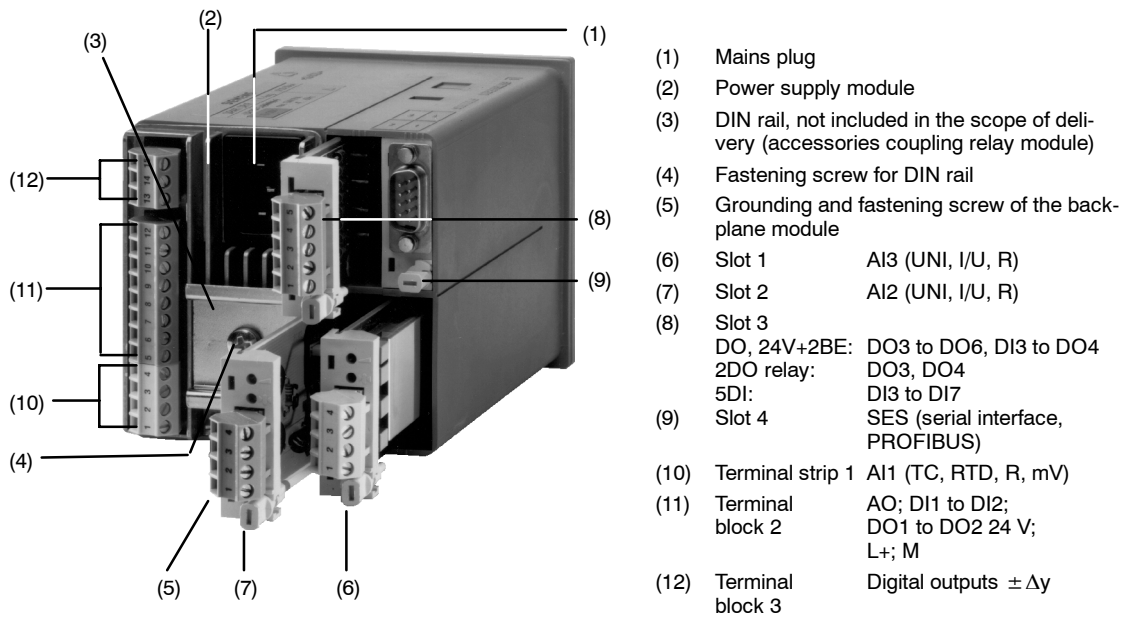
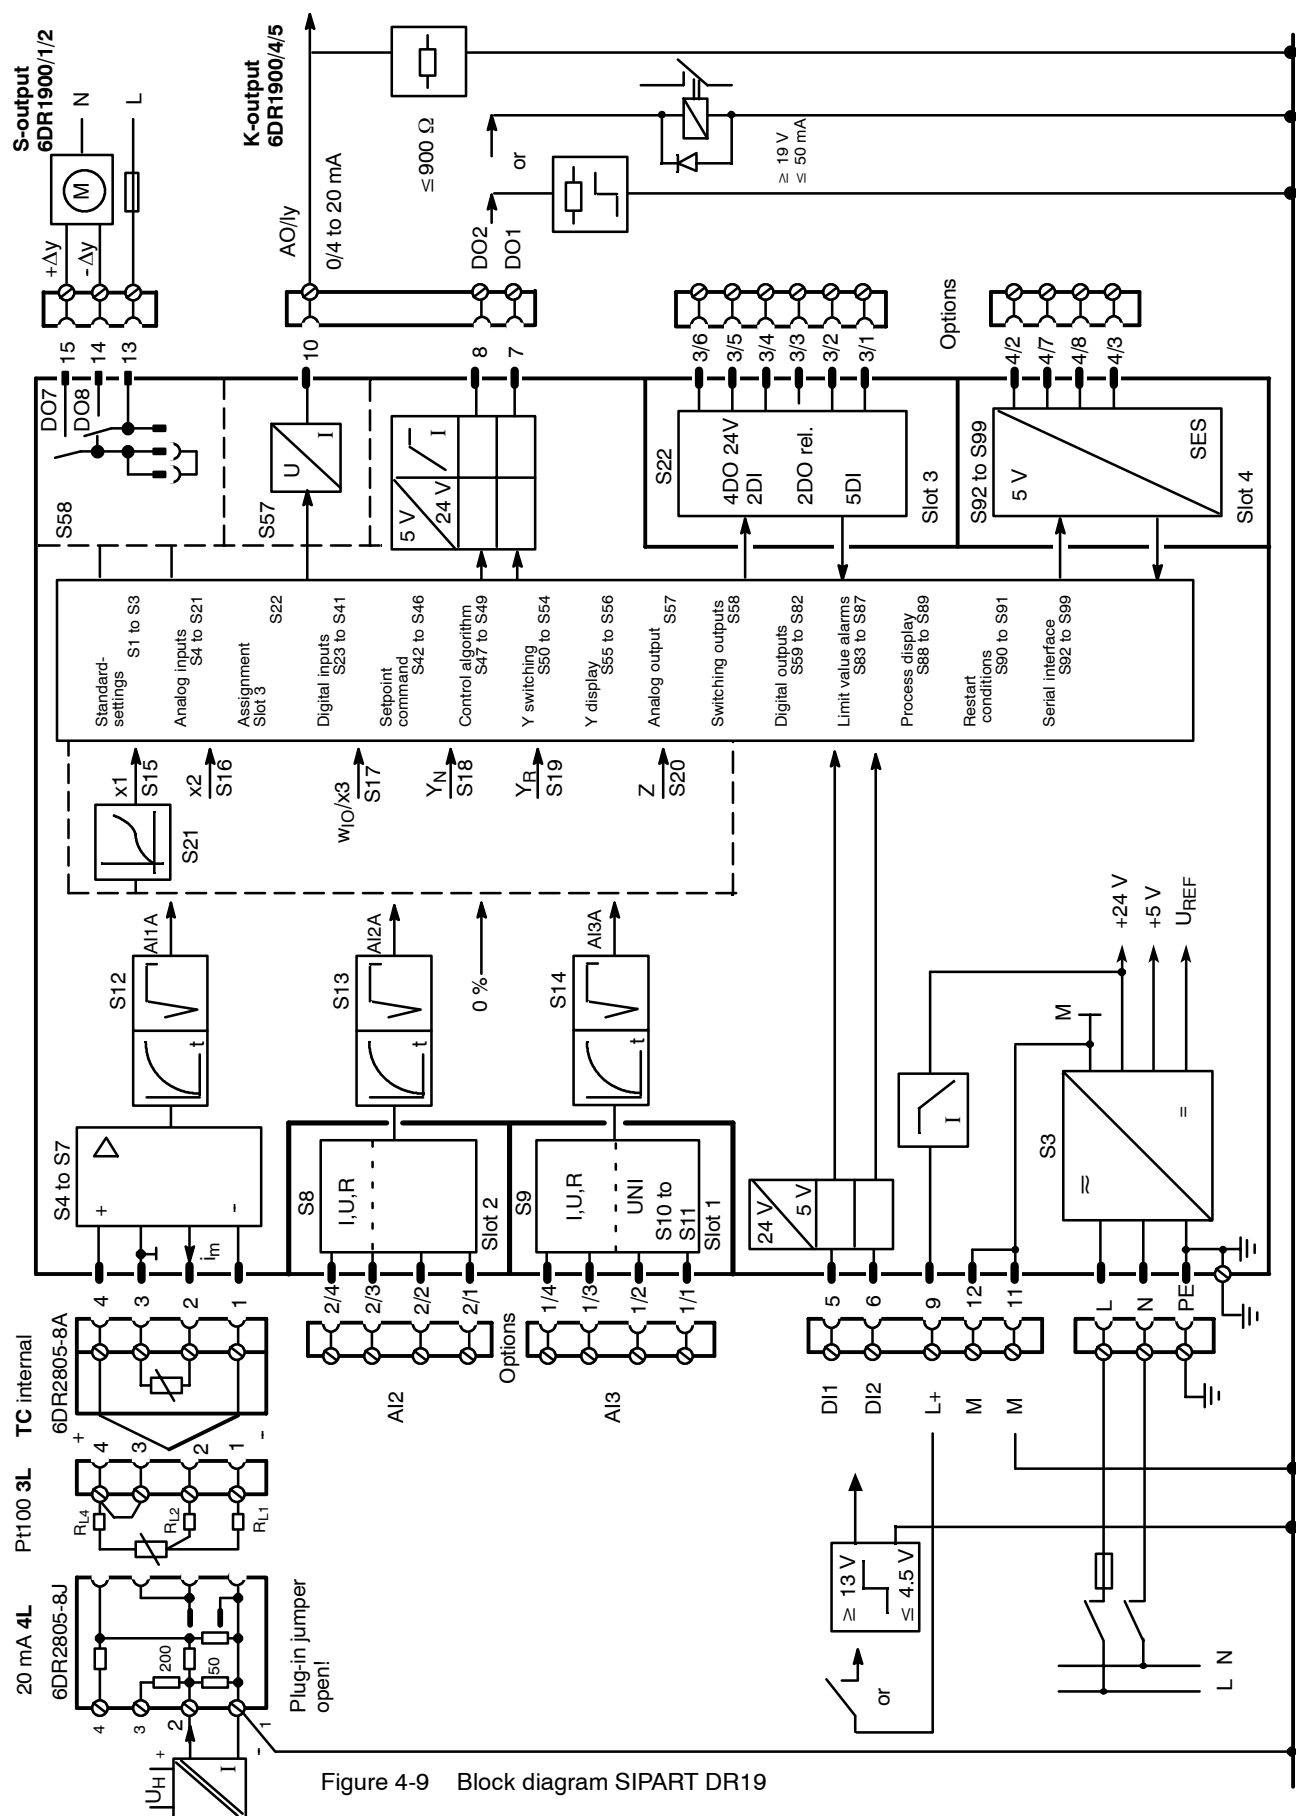

Figure 4-8 Controller backplane with terminal assignment of the standard controller
Figure 4-9 Block diagram SIPART DR19
Connect the PE conductor to the ground screw (see figure 4-8), page 142 on the back of the controller. When connecting to 115 V or 230 V AC-mains the PE conductor connection can also be fed via the three-pin plug (see figure 4-9, page 143). The controller’s ground-connection may also be connected with the PE conductor (grounded extra low voltages).
The coupling relay module should be snapped onto the DIN rail (figure 4-8, page 142) and wired to the digital outputs.
- 1) The connection between the PE conductor screw (figure 4-8, item 5, page 142) to ground must be established additionally for high electromagnetic compatibility (EMC) in 115/230 V-controllers. This connection must also be low resistive for high frequencies (Cu-band or Hf-strand). Alternatively at least 2.5 mm² strand should be used.